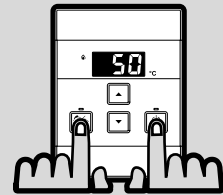

Fig. 3
**STEP 1:** On the 'Master' controller only, press and hold the 'Priority' and 'On/Off' buttons simultaneously (Fig. 3) until a 'beep' is heard (approximately 5 seconds).